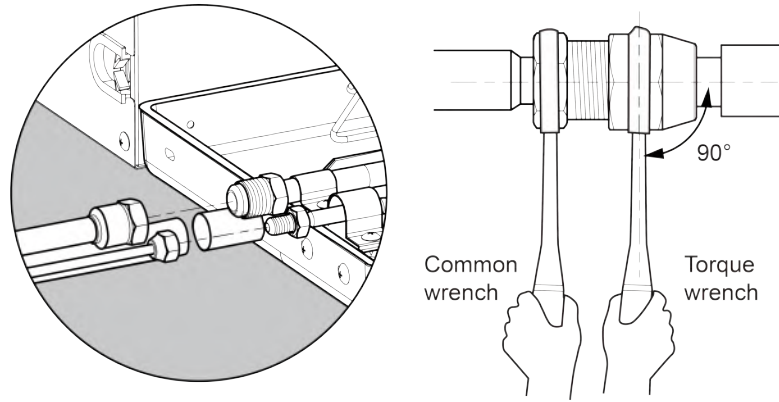

Fig.3.4.1
- (1) Before welding the pipeline sealing cap, please make sure there's no refrigerant in pipeline. If welding it directly, it may cause unnecessary property damage or personal injury.
- (2) Conform to the following principles during pipe connection: Connection pipeline should be as short as possible. The height difference between indoor and outdoor units should be as short as possible. Keep number of bends as little as possible. The radius of curvature should be as large as possible.
- (3) Weld the connection pipes between indoor and outdoor unit. Please strictly conform to the requirements for welding process. Rosin joints and pin holes are not allowable.
- (4) When laying the pipes, be careful not to deform them. The radius of bending parts should be more than 200mm. The pipes can't be repeatedly bent or stretched, otherwise the material will get harden. Do not bend or stretch the pipe over three times at the same position.
- (5) Please use a torque wrench to connect union nut on the indoor unit. See the Fig.3.4.1 as below.